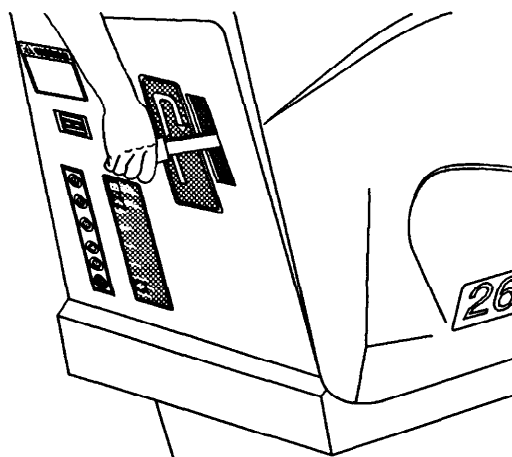

FIG. 6.
5. To lower the squeegee, lift the handle while pressing to the right, then lower to the floor. The vacuum motor will start when the handle is placed in the lowest position. Figure 6